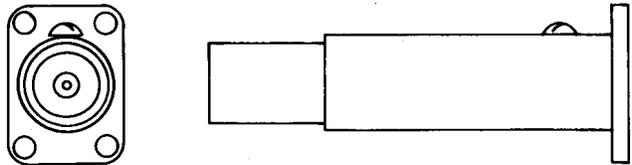

Fig. 14—564A Jack
2.14 564A: This coaxial-type jack (Fig. 14) has coaxially arranged inner and outer contacts designed to be used with a 358A and similar-type plugs. At the threaded end, the inner contact terminal is designed for a soldered wire connection and not designed for a connection to a coaxial cable. This jack is used in the TH Radio.